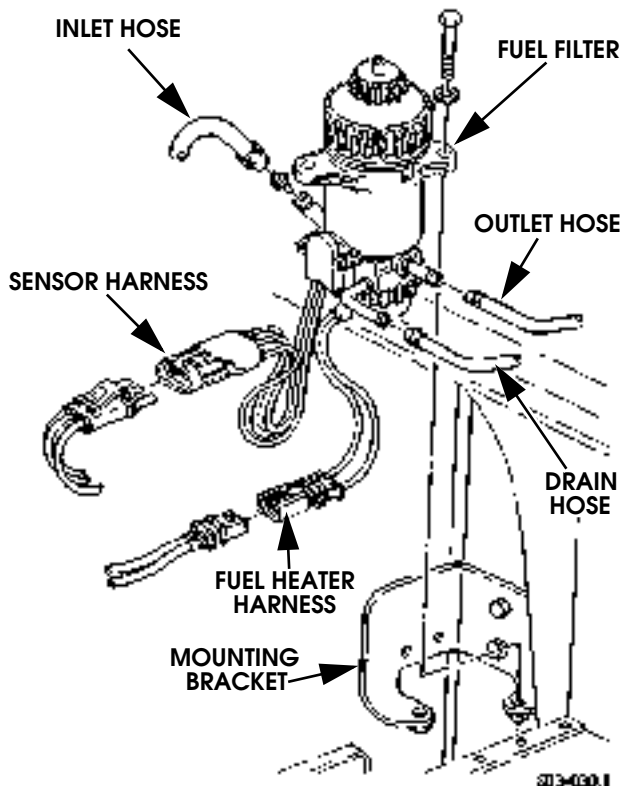

Figure 3-40: Fuel Filter Mounting
2. Disconnect fuel inlet and outlet hoses from filter (Figure 3-40:).
1. Install fuel filter on bracket and secure with washers and bolts (Figure 3-40:).